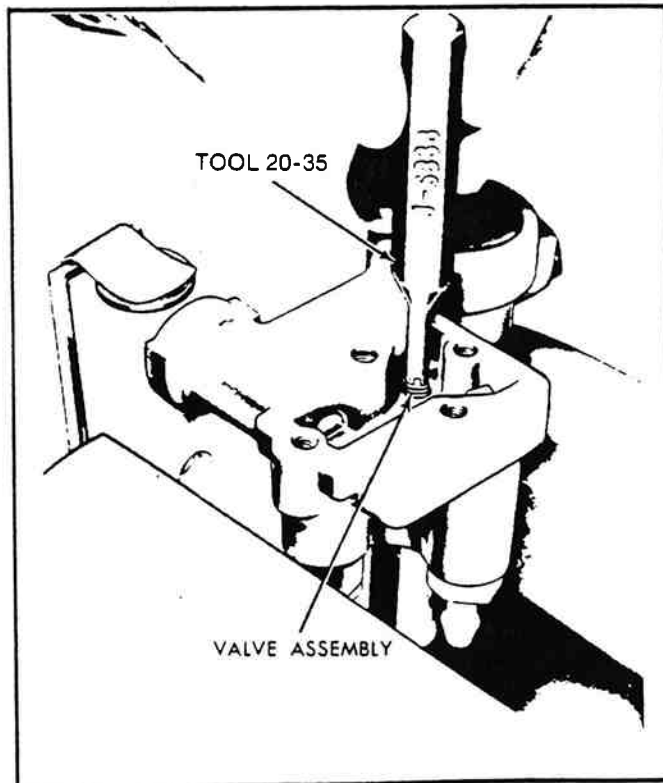
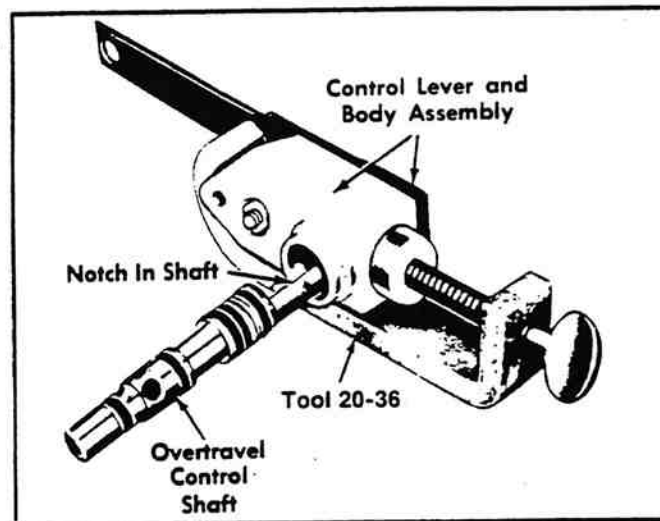

Figure 12-17. Replacing Valve Core Assemblies.
Figure 12-18. Replacing Overtravel Lever.
1. Remove inlet adapter and check valve assembly (18) from valve body (10). Remove outlet adapter (20). Remove adapter O-rings (17). Remove air line fitting gasket (21) from adapters. Remove outlet adapter screen (19).
2. Remove four cover screws and lockwashers (1) from cover and bracket (2). Remove cover, bracket and gasket (6).
3. Position valve with delay plug (13) at top. Unscrew delay plug from valve body (10). Drain silicone fluid from cavity. Remove plug O-ring (12). Unscrew piston pin (11) from control shaft (23).
4. Remove delay cover retaining ring (35), cover (3) and cover O-ring (4). Remove delay piston (5). Discard O-ring.
5. Remove valve lever screw and lockwasher (7) from valve lever. Remove exhaust valve and intake valve lever (36) from valve body.
6. Remove valve stem lock clip (8) from stem of exhaust valve core. Spread locking arms and slide clip from around stem.
8. Remove intake valve core (9) with tool (TMC/MCI Part No. 20-35). See figure 12-17.
9. Remove exhaust fitting (16) and screen (15), then remove exhaust valve core (14) with tool (TMC/MCI Part No. 20-38).
10. Remove plug retainer (33) from overtravel control body (30). Retainer must be cut off. Use caution to avoid damage to nylon body. Remove overtravel body plug (25).
11. Place forked end of tool (TMC/MCI Part No. 20-36) around shaft in overtravel control body (30), then tighten clamp screw. Refer to figure 12-18.
1. Install intake valve core (9) and exhaust valve core (14) with screen (15) in control body (10) as shown in Figure 12-17. Tighten to 2-1/2 to 3 inch pounds torque (.28 to .33 Nm). Install exhaust fitting (16).
6. Position fork of tool 20-36 so that the shaft can be inserted in body (figure 12-18). Carefully apply pressure with clamp screw. Compress springs only enough to allow shaft to be inserted. Install overtravel control shaft (23). Rotate shaft so that flat is next to piston, and remove tool 20-36.
7. Insert overtravel body plug (25) in bore of body. Force new plug retainer (33) in position over nylon pivot and body plug (25).
8. Place new overtravel control body seal (29) on shoulder of body. Slide overtravel assembly into valve body (10). Insert carefully to avoid seal damage.
9. Place delay piston (5) in valve body with open side of piston toward the overtravel shaft (23).
10. Align pin openings in piston and in shaft. Fit piston pin (11) in tapered side of hole in shaft. Tighten pin to 70-80 inch pounds torque (8.0 to 9.0 Nm).
11. Place intake valve and exhaust valve lever (36) in position on overtravel shaft. Make sure the fork on the exhaust lever side is around stem of exhaust valve core (14). Fork should be high enough on stem so that stem will not be held open. Insert valve lever screw (7) and tighten to 8-10 inch pounds torque (.90 to 1.13 Nm).
12. Spread ends of valve stem lock clip (8) slightly and place on exhaust valve stem around stem head. Use suitable tool to brace stem and pinch ends of clip just enough to secure on stem. Clip must rotate freely on stem.
13. Using new O-ring (17), install air inlet adapter and check valve assembly (18) into valve body.